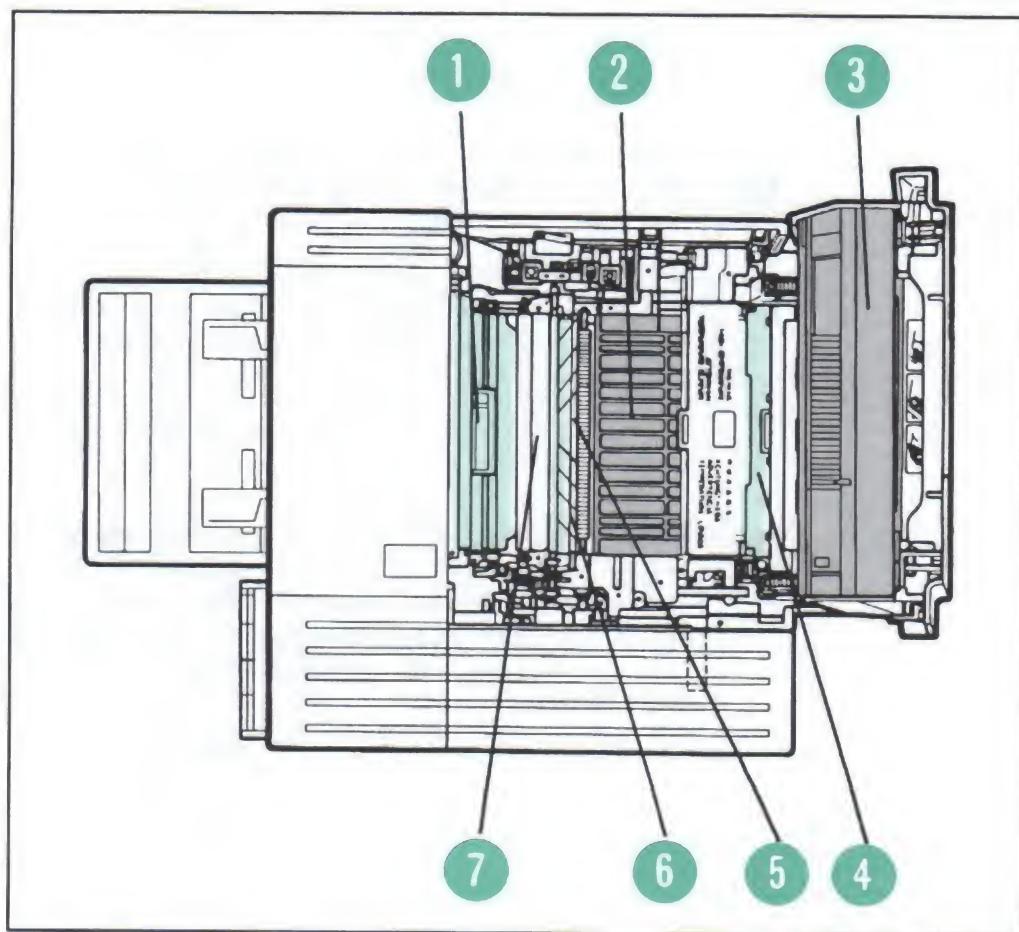

Figure 6-6. Printer Cleaning Locations (open view from top)
Clean the remaining areas as described in the following sections. Figure 6-6 shows the areas of the printer which require cleaning.
3. Push the rear section of the fusing assembly (Figure 6-6) fully open, toward the back of the printer. You will be able to see the four black, plastic fuser separation pawls (claws) along lower edge of the section you just pushed back.
The anti-static teeth are located just beyond the transfer corona wire, between two black plastic strips on the transfer corona housing (Figure 6-6). Periodically cleaning the anti-static teeth helps prevent paper jams. Use the cleaning brush provided with your printer to brush out any accumulations of paper dust and toner from around the anti-static teeth.